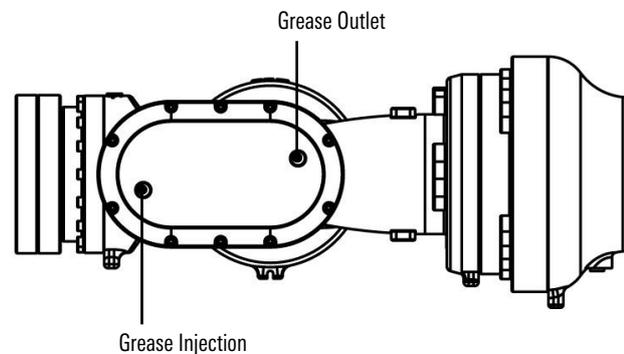

Figure 13-10 Replace the lubricating grease of wrist gear case
- Remove the grease outlet M10x1 plug, as shown in Figure 13-10.